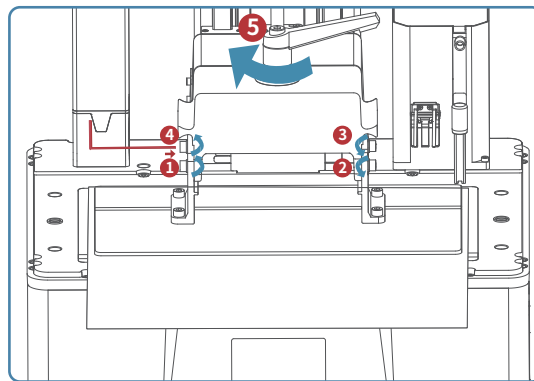

Figure 6
1. Tighten the rotary handle **5**, then loosen the four fixing screws **1 3 4 2** of the build plate until the build plate can move freely (see Figure 6).